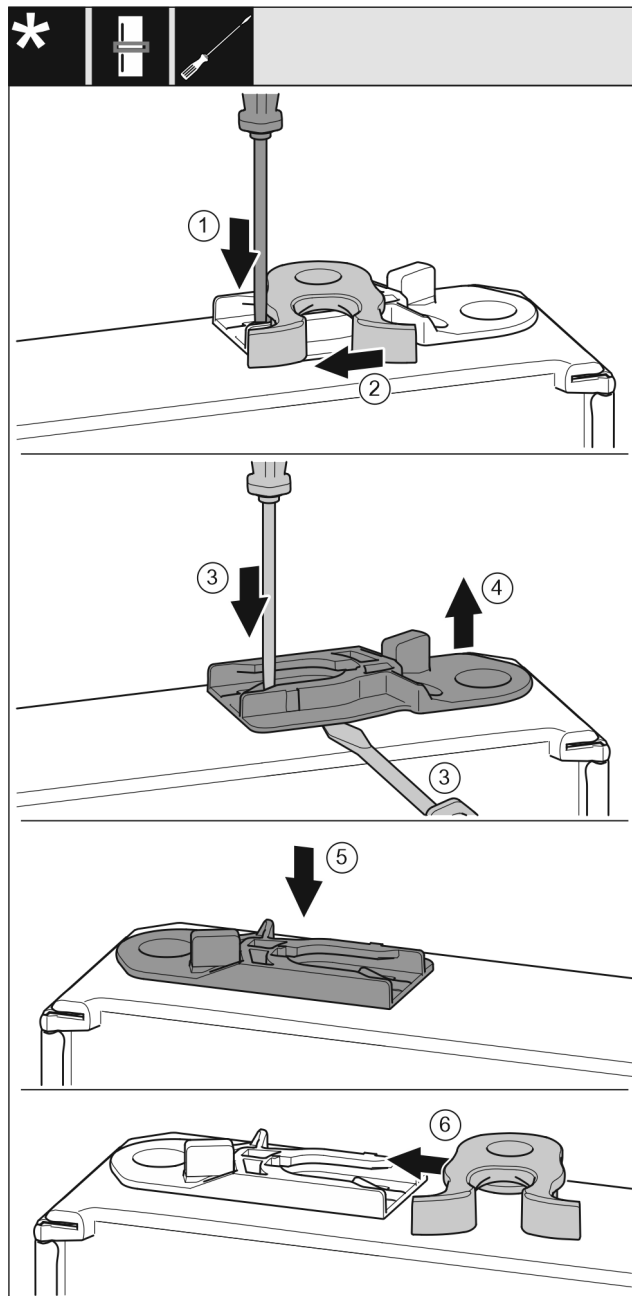

Fig. 17
- Push the lug downward with a slotted screwdriver. Fig. 17 (1)
- Pull the door latch out of the guide. Fig. 17 (2)
- Pull out the guide bush: Press the lug with a slotted screwdriver and, at the same time, insert the slotted screwdriver under the guide bush. Fig. 17 (3, 4)
- Slide the guide bush included in the scope of supply to the other side of the housing. Fig. 17 (5)
- Push the door latch into the guide. Fig. 17 (6)